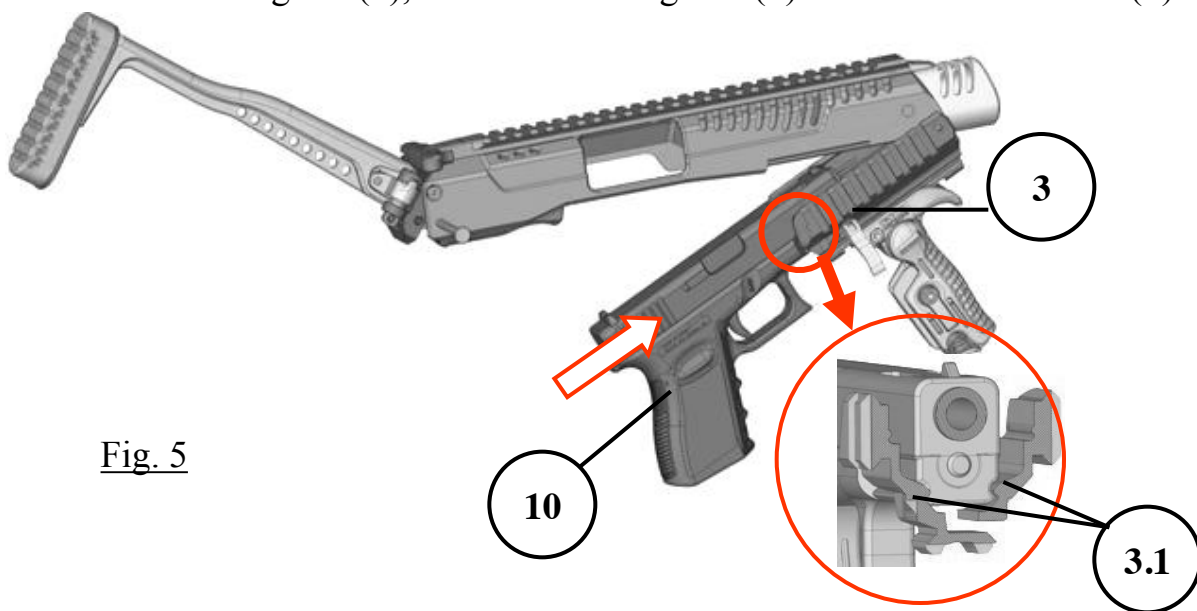

Fig. 5
Step 2. Slide your Glock Pistol (10) into the Handguard (3) so the Pistol Rail Grooves will fit securely into the Hand guard's Rails (3.1) (Fig 5).